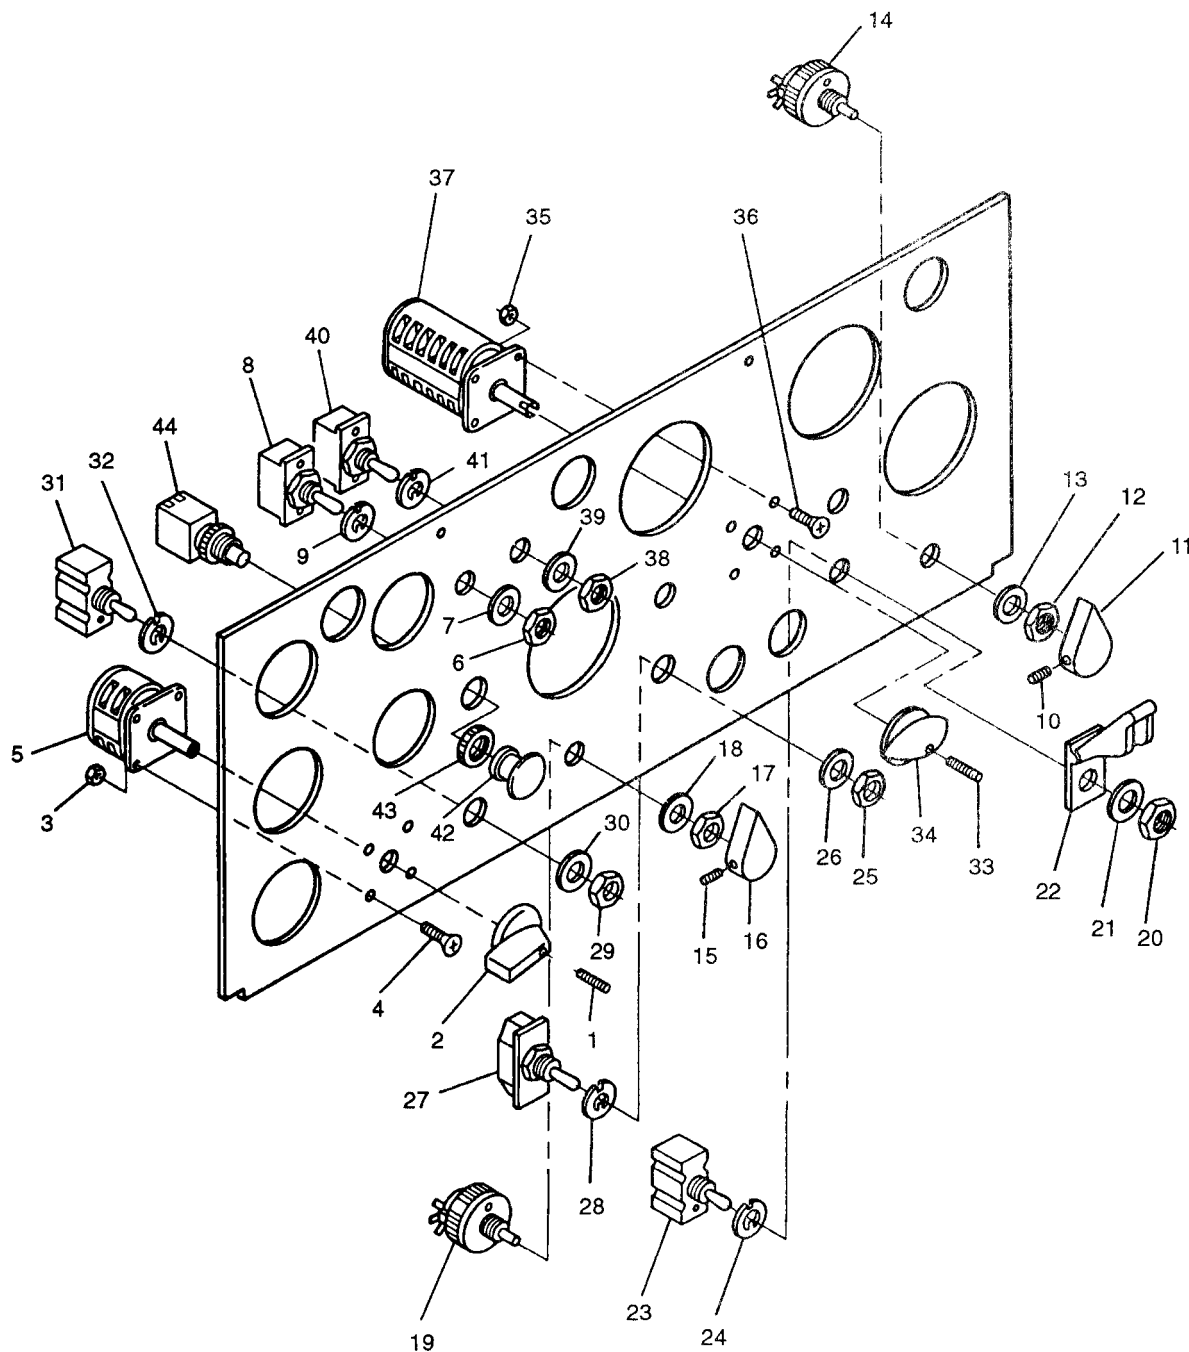

FIGURE 2-13. Control Panel Switches
- d. Loosen set screw (1, FIGURE 2-13) and remove knob (2) from MASTER SWITCH (5).
- e. Remove nuts (3) and screws (4).
- f. Remove MASTER SWITCH (5) from control panel.
- g. Tag and disconnect MASTER SWITCH (5) electrical leads.
- d. Tag and disconnect MASTER SWITCH (5., FIGURE 2-13) electrical leads.
- h Connect electrical leads to MASTER SWITCH (5) and remove tags
- a. Connect electrical leads to MASTER SWITCH (5, FIGURE 2-13) and remove tags.
- b. Insert MASTER SWITCH (5) into control panel.
- c. Install screws (4) and nuts (3).
- d. Install knob (2) and tighten set screw (1).
- d. Tag and disconnect ETHER switch (8, FIGURE 2-13) electrical leads.
- e. Remove nut (6) and washer (7).
- f. Remove ETHER switch (8) from control panel and remove tab washer (9).
- a. Install tab washer (9, FIGURE 2-13) and insert ETHER switch (8) into control panel.
- b. Install washer (7) and nut (6).
- d. Tag and disconnect VOLTAGE adjust potentiometer (14, FIGURE 2-13) rheostat electrical leads using soldering gun. Remove shrinkable tubing.
- e. Remove set screws (10) and knob (11).
- f. Remove nut (12) and washer (13).
- g. Remove VOLTAGE adjust potentiometer (14) from control panel.
- a. Insert VOLTAGE adjust potentiometer (14, FIGURE 2-13) into control panel.
- b. Install washer (13) and nut (12).
- c. Install knob (11) and set screws (10).
- d. Tag and disconnect FREQUENCY adjust potentiometer (19, FIGURE 2-13) electrical leads using soldering gun. Remove shrinkable tubing.
- e. Remove set screws (15) and knob (16).
- f. Remove nut (17) and washer (18).
- g. Remove FREQUENCY adjust potentiometer (19) from control panel.
- a. Insert FREQUENCY adjust potentiometer (19, FIGURE 2-13) into control panel.
- b. Install washer (18) and nut (17).
- c. Install knob (16) and set screws (15).